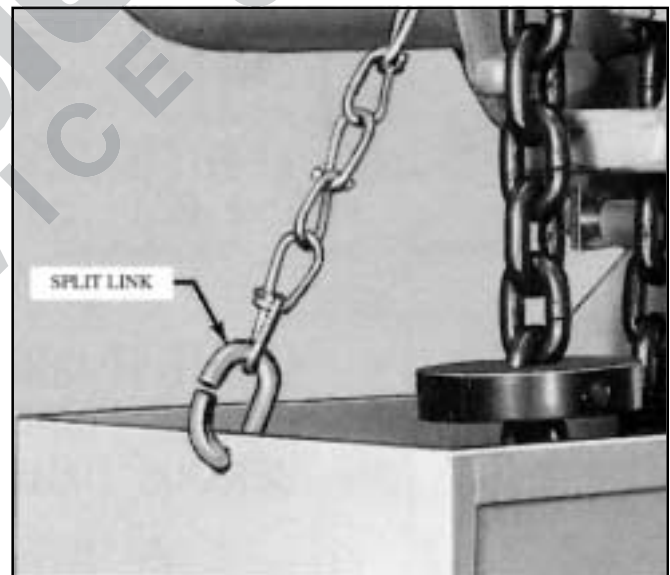

Figure 2. Support Chain Connection at Container
4. Place opened split link on one end of support chain and attach to container as shown in Figure 2. Secure by twisting link closed using pliers or adjustable wrenches.